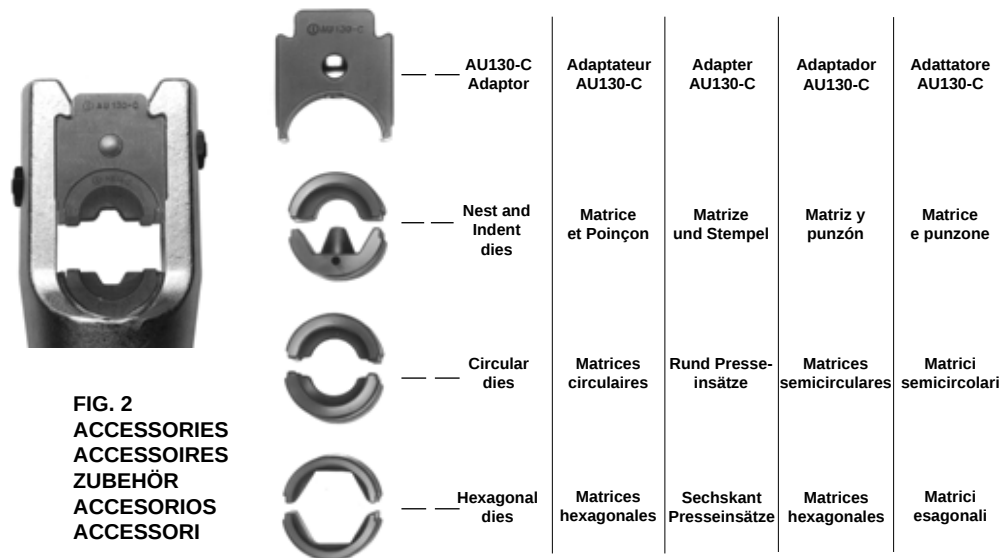

FIG. 2
* The HT131-UC tool is the HT131-U tool fitted with adaptor AU130-C (Refer to Fig. 2).
4. CRIMPING OF CONNECTORS ON COPPER CABLES (Ref. to Fig. 2 and 3)